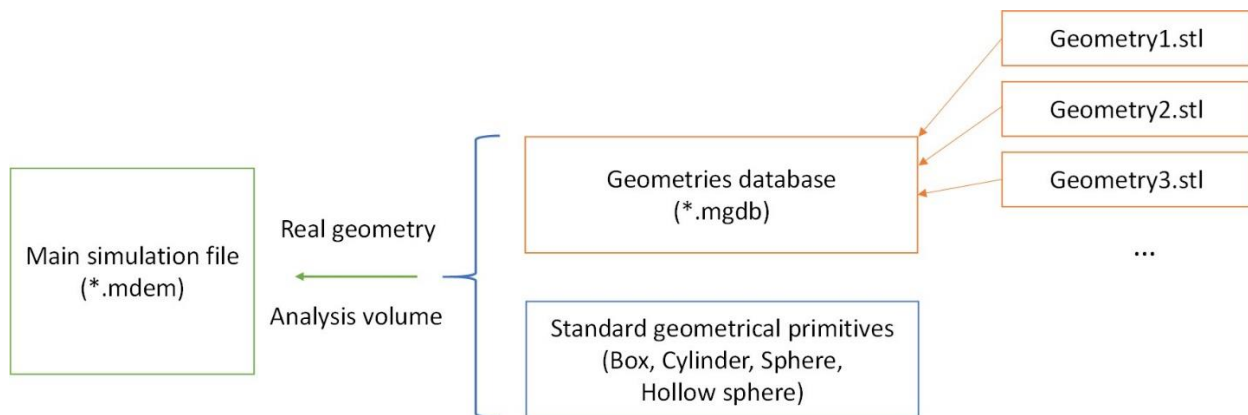

Fig. 1. Insertion of new geometries to the scene.
The geometries editor allows to add, modify or to define time-dependent velocities of geometrical objects. Two types of geometries are available in MUSEN: *real geometries* (normal walls, apparatuses part etc., which are considered in contact detection algorithm), *analysis volumes* (imaginary volumes which are used for data analysis only). The geometry can be imported from external CAD programs (STL volumes) or created based on standard MUSEN geometries (Sphere, Box, Cylinder, Hollow sphere) (s. Fig. 1).
- *Center*: center of geometrical objects. In the case of STL geometry – this point is defined as a center of bounding box. In Fig. 1 determination of center is schematically shown;